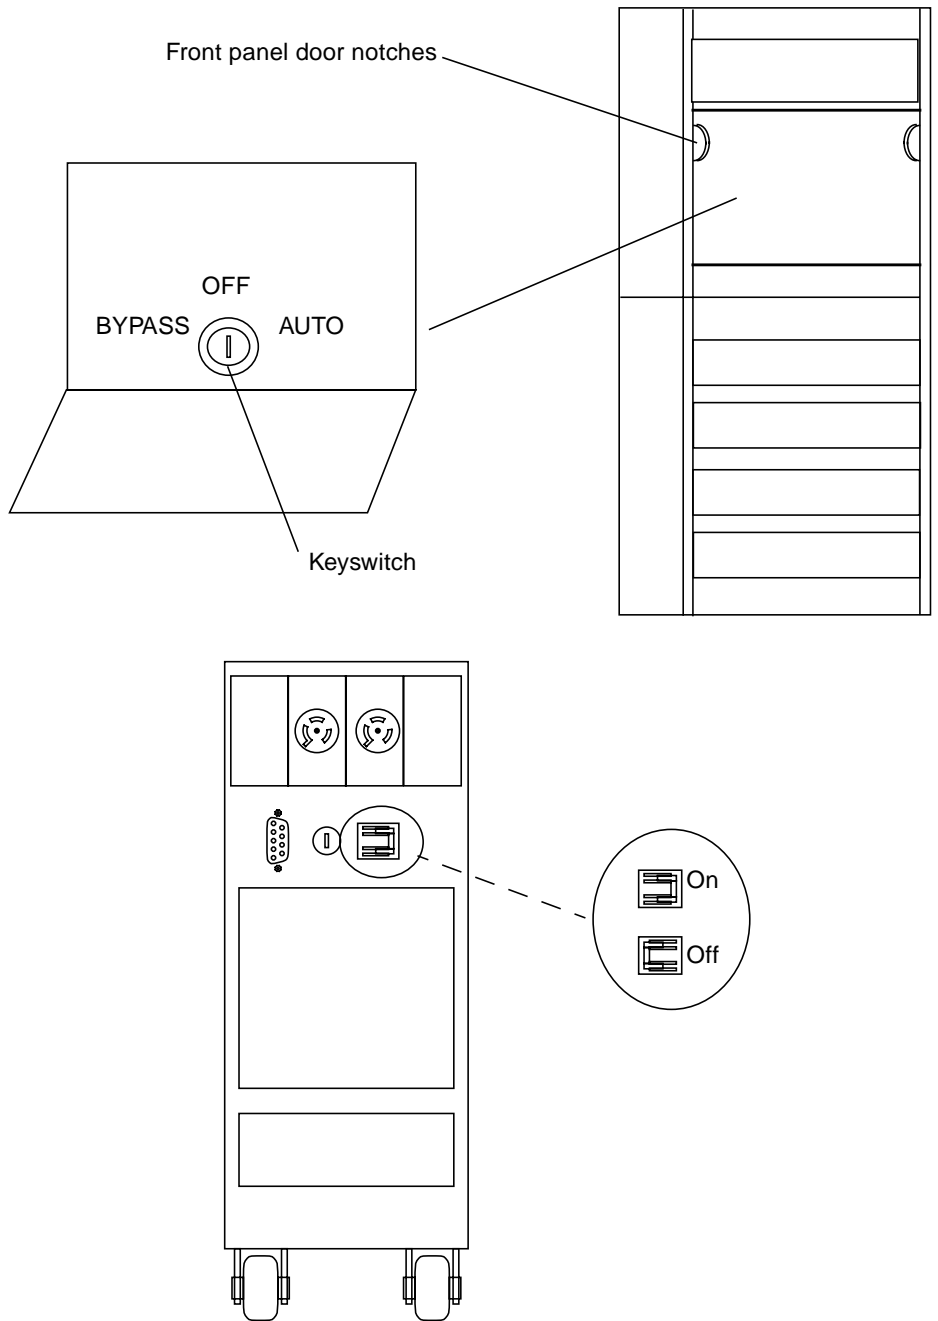

FIGURE 2-1 PCU Keyswitch and Circuit Breakers
2. **At the front of the PCU, turn the key switch inside the front panel to AUTO. To open the panel, pull it down at the notches. See FIGURE 2-1.**